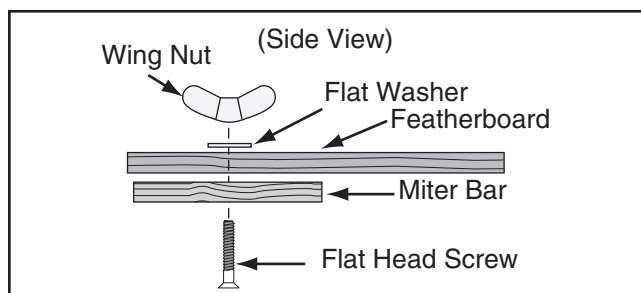

Figure 70. Assembling miter slot featherboard components.
8. Assemble the miter bar and featherboard with a $\frac{1}{4}$ "-20 x flat head screw, flat washer, and a wing nut or a star knob (see **Figure 70**). Congratulations! Your featherboard is complete.